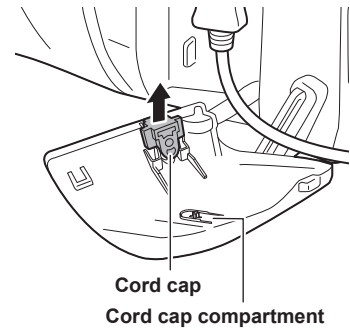
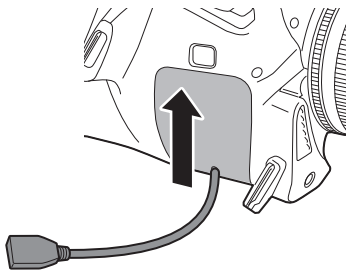

Fig. 3
Fig. 4
- 3** Remove the cord cap inside the removed cover (Fig. 3), pass the USB 2.0 extension cable there, and slide the cover to close. (Fig. 4)